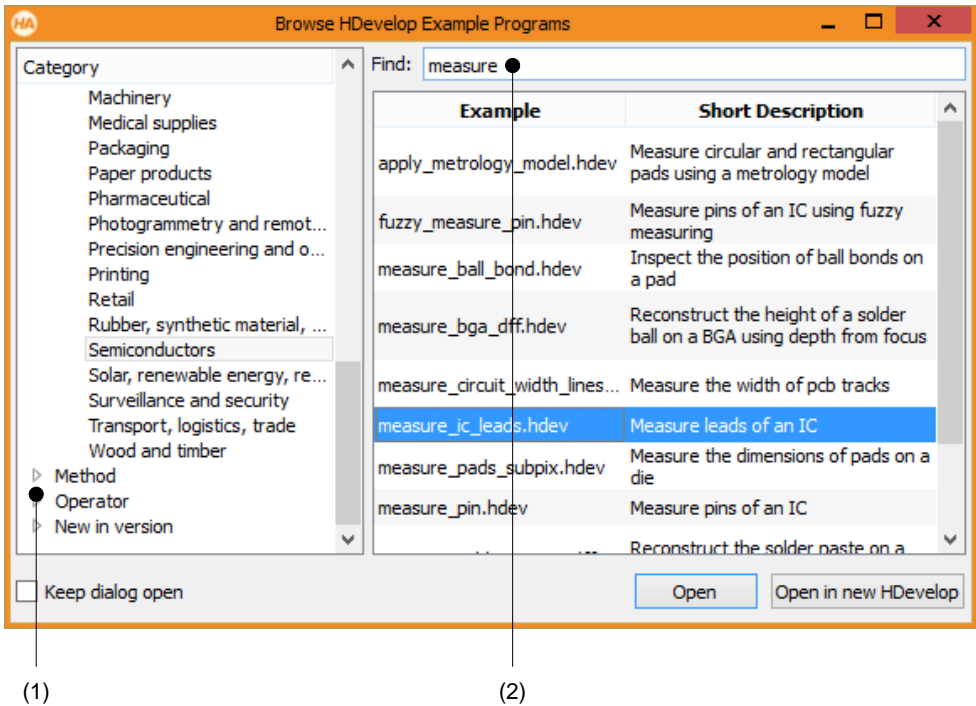

Figure 2.4: HDevelop program examples.
This will open the example program browser (see figure 2.4). Similar to a file browser, it shows a tree of topics on the left and a list of example programs from the selected topics on the right. Subtopics can be toggled on or off by clicking the corresponding icon (1) or double-clicking the category name.